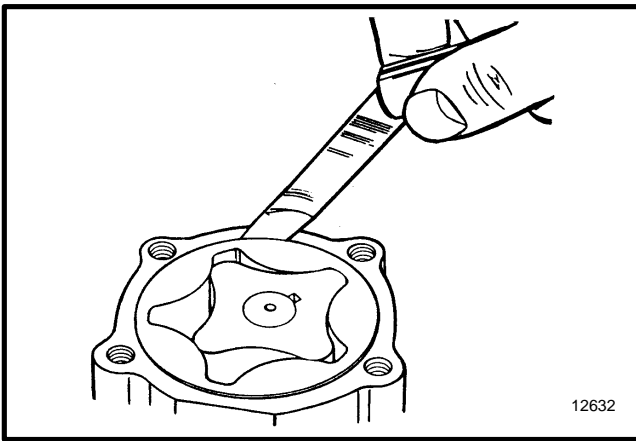
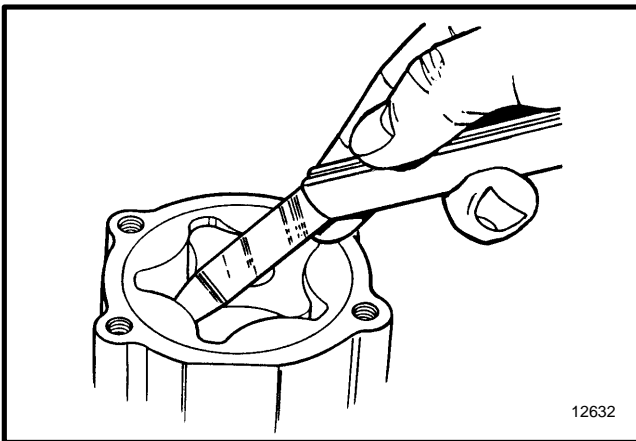

FIGURE 58. CHECK THE CLEARANCE OF THE OUTER ROTOR
FIGURE 59. CHECK THE CLEARANCES OF THE INNER ROTOR
2. Check the clearance between the rotors as shown in FIGURE 58. and FIGURE 59. If the clearances are greater than 0.13 mm (0.005 inch), replace the rotors.